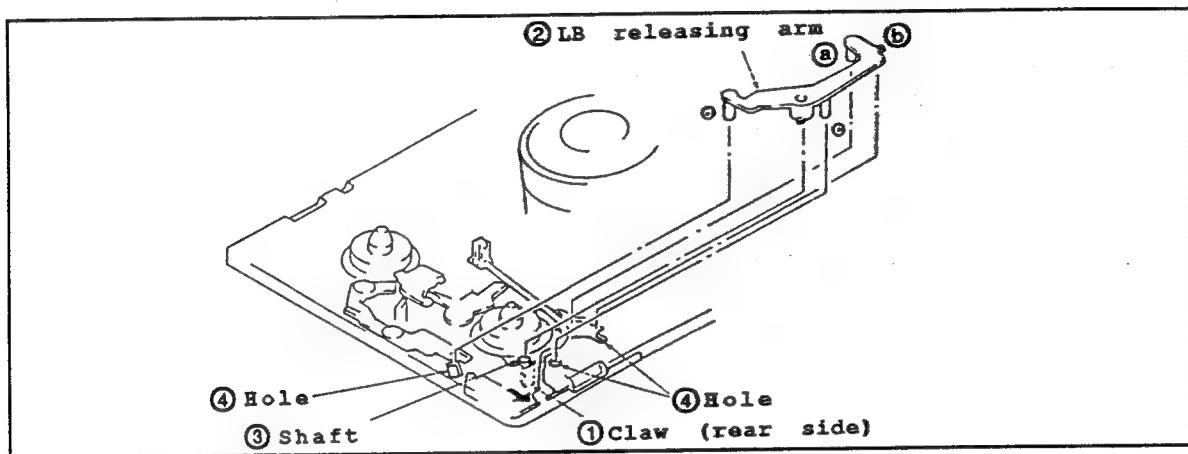

Fig.II-12
• Disassembling (Fig.II-12)
- (1) Take off the LB releasing arm ② while pushing the claw ① in the arrow direction.
• Reassembling (Fig.II-12)
- (1) Install the LB releasing arm ② to the shaft ③ while inserting ④, ⑤, ⑥ and ⑦ to the holes ⑧, respectively.